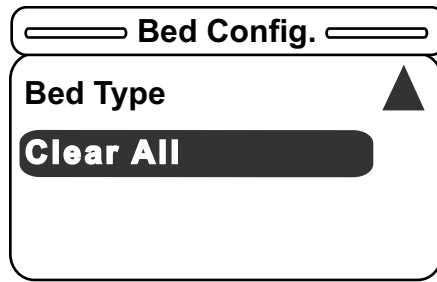

Figure 25 – Bed Config. menu
1. On the first power-up, the footboard screen displays the Bed Config. menu (Figure 25). Only two items should display.